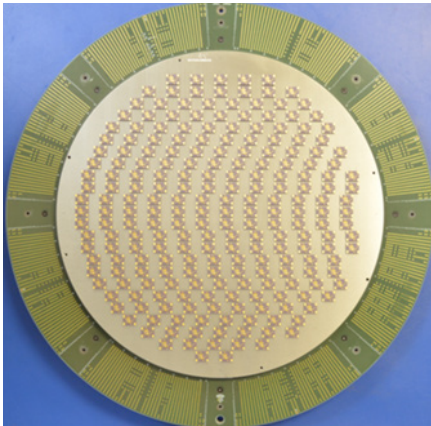

Figure 1: FormFactor TrueScale Matrix 300mm full-wafer probe card with “rainbow” touchdown pattern to maximize test throughput.
2. A proprietary touchdown optimization tool to create inventive patterns to maximize throughput: As you can see in **Figure 1**, the “rainbow” pattern typically provides lower touchdowns compared to a rectangular probe card’s “solid wall” pattern. Simply put, a circular probing pattern is more efficient for a round wafer.